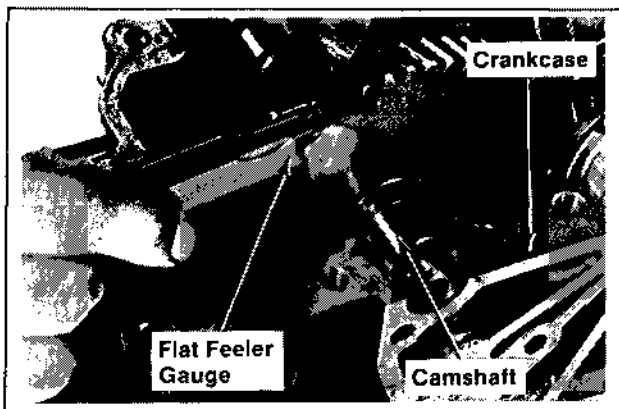

Figure 11-17. Measuring Camshaft End Play.
4. Measure the camshaft end play with a flat feeler gauge. The recommended camshaft end play is $.003/.013$ ". Refer to Figure 11-17.